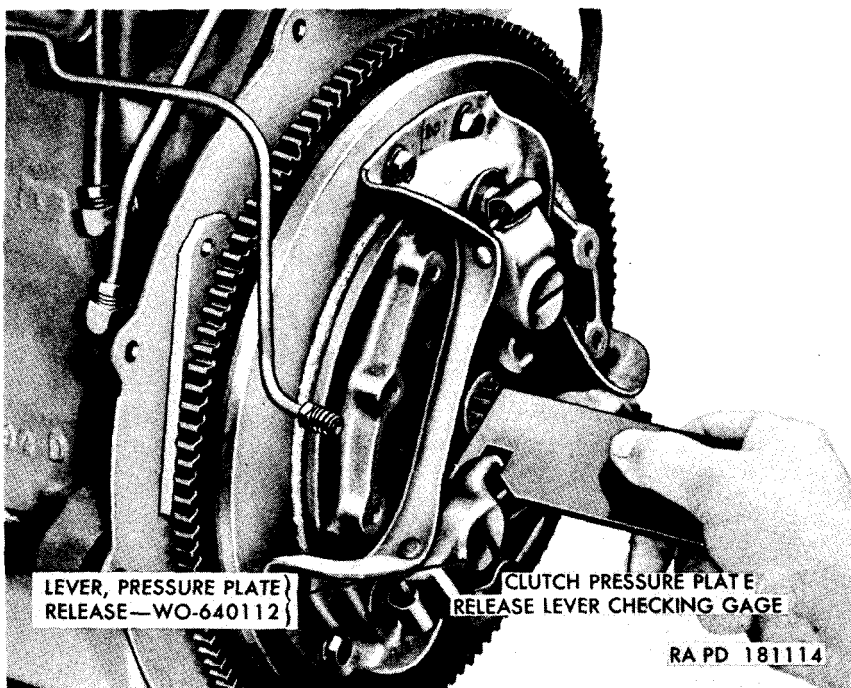

Figure 103. Checking clearance of release lever.
- (1) When the gage is held in the position shown in figure 103, a correct setting is indicated when the end of the gage is against the web of the pressure plate and the outer edge of the release lever is just touching the front edge of the cutout section of the tool.
- (2) Check each of the three levers individually and make sure that all of the levers are within $2\frac{7}{32}$ -inch, plus or minus 0.005-inch.